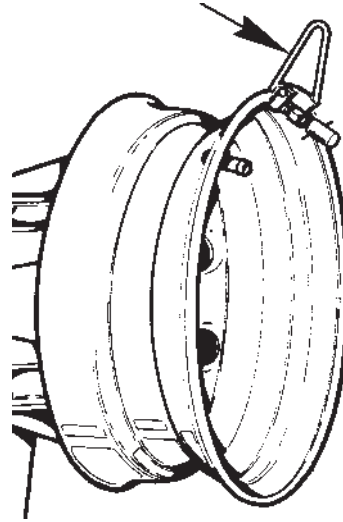

Fig.17
1. Liberally lubricate the entire inner surface of the rim and the tire beads. Attach the mounting clamp #4009472 (#1 Fig.17) to the outer rim flange with the valve at 11 o'clock and the clamp at 12 o'clock.